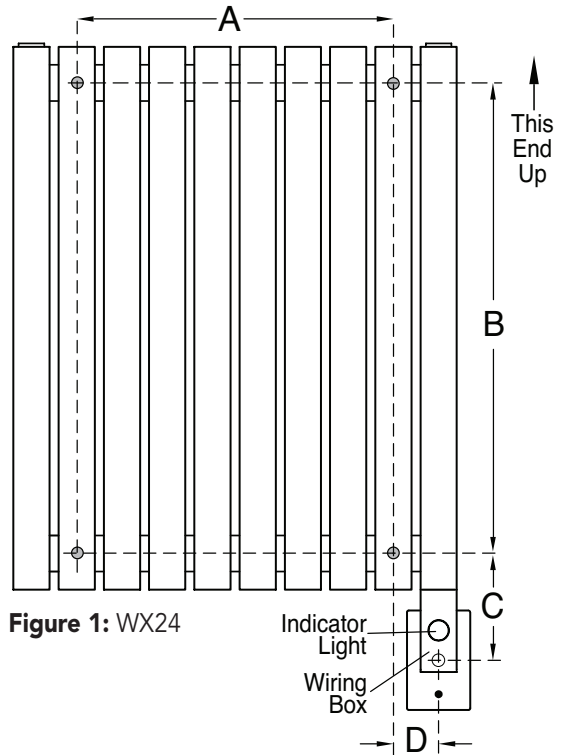

Figure 1: WX24
**⚠ CAUTION** A single gang junction box must be roughed in. See figures 1 and 2 for locations.